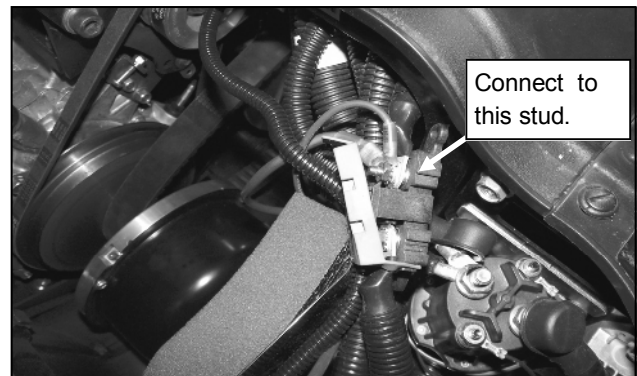

Fig. 4.13 (Connect to Alternator Harness Fuse)
- 4.13** Install the two small ring terminals on the heater wire harness to the fuse holder stud as shown in the wire diagram and re-install the nut. See Figure 4.13.